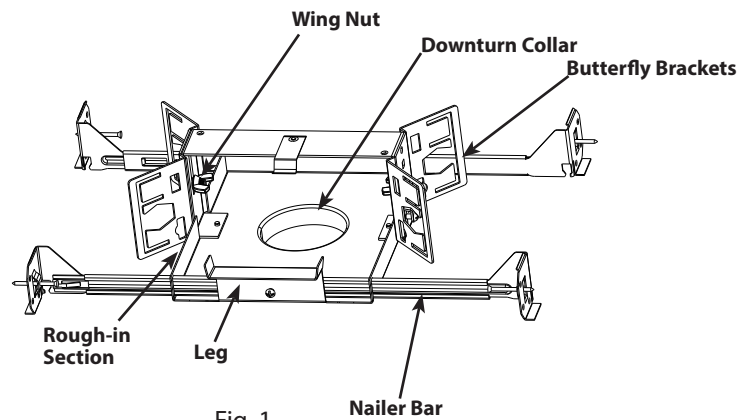

Fig. 1
3. The fixture can be adjusted from 1/2" to 1" max ceiling thickness. For height adjustment, loosen the **Wing Nut** and slide the **Butterfly Bracket**. If necessary remove the **Wing Nut** and insert in screw in different hole provided on the **Butterfly Bracket**. (Fig. 1)